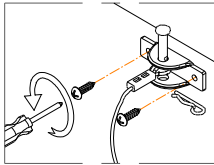

Figure 3
7. Check to make sure the metal cord are securely laced and locked to the brackets.(FIGURE 3)